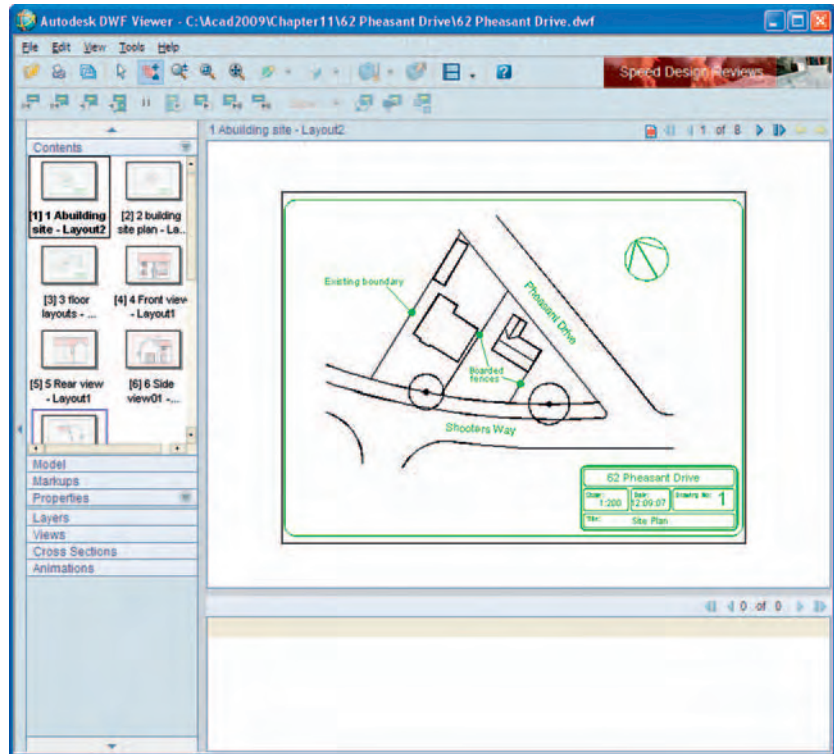

Fig. 11.14 The Autodesk DWF Viewer showing details of the 62 Pheasant Drive.dwf file
2. The **Autodesk DWF Viewer** window appears showing the **62 Pheasant Drive.dwf** file (Fig. 11.14). Click in any of the icons of the thumbnails of the drawings in the viewer and the drawing appears in the right-hand area of the viewer.